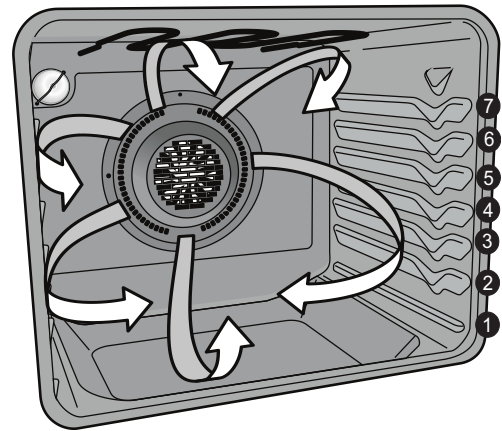

Figure 20: Rack positions
- When baking cakes using two oven racks place bakeware in positions 3 and 6 and place bakeware as shown in Figure 20.